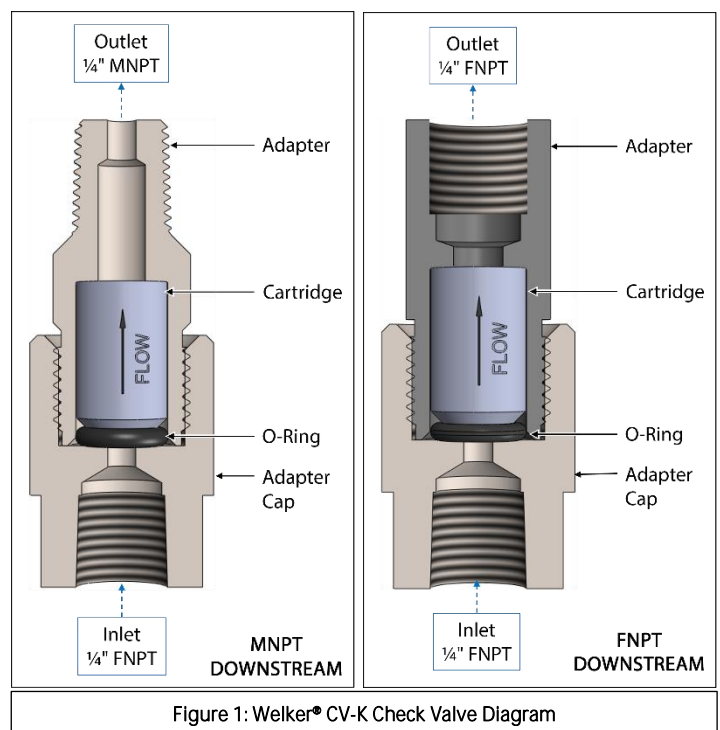

Figure 1: Welker® CV-K Check Valve Diagram
- Install the inlet in the upstream direction (see Flowdirection in Figure 1).
Make certain that the flow arrow on the cartridge (Figure 1) points in the direction of product flow. Incorrect installation of the cartridge will prevent the CV-K Check Valve from operating properly.
- Unscrew the adapter cap from the adapter (Figure 1).
- Remove the cartridge along with the O-ring (Figure 1).
- Install a new O-ring to the replacement cartridge (Figure 1).
- Install the replacement cartridge to the adapter (Figure 1).
- Make certain that the flow arrow on the replacement cartridge (Figure 1) points in the direction of product flow. Incorrect installation of the cartridge will prevent the CV-K Check Valve from operating properly.